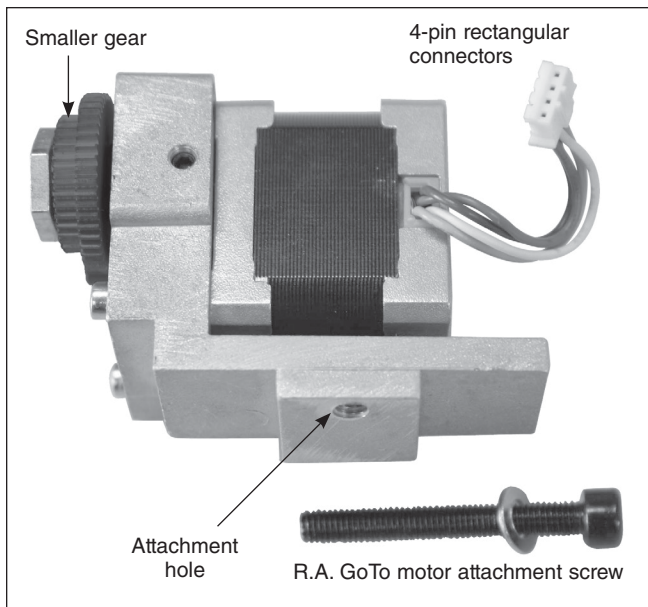
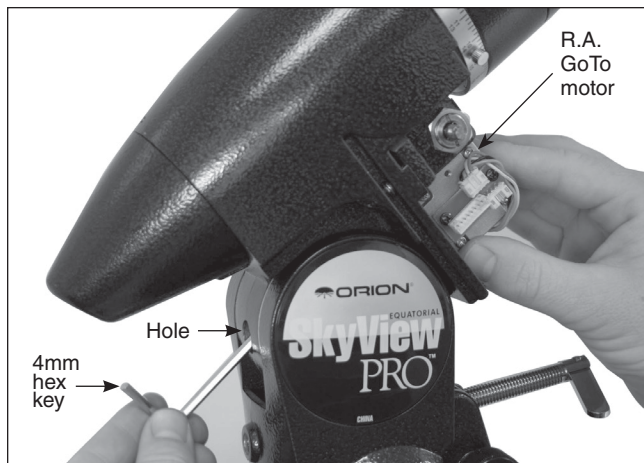

Figure 3. The R.A. GoTo motor assembly
Figure 4. Attaching the R.A. GoTo motor
3. The R.A. GoTo motor assembly is identified by the 4-pin rectangular connector attached to the motor body (**Figure 3**). The motor will be attached to the mount by a 40mm long socket-head cap screw that goes through the hole in the rear of the equatorial mount, just above the rear latitude adjustment L-bolt (**Figure 4**). It will be helpful to remove the rear latitude adjustment L-bolt while installing
the R.A. GoTo motor. Place one of the 10mm flat washers onto the R.A. motor attachment screw. Attach the R.A. motor attachment screw to the end of a 4mm hex key and push it up through the hole in the rear of the equatorial mount (**Figure 4**). Hold the R.A. GoTo drive in your hand so its threaded hole meets the screw as it comes out the other end of the hole. Thread the screw into the threaded hole of the R.A. motor assembly until secure, but do not overtighten. You will need to make small adjustments to the motor position in the following steps.